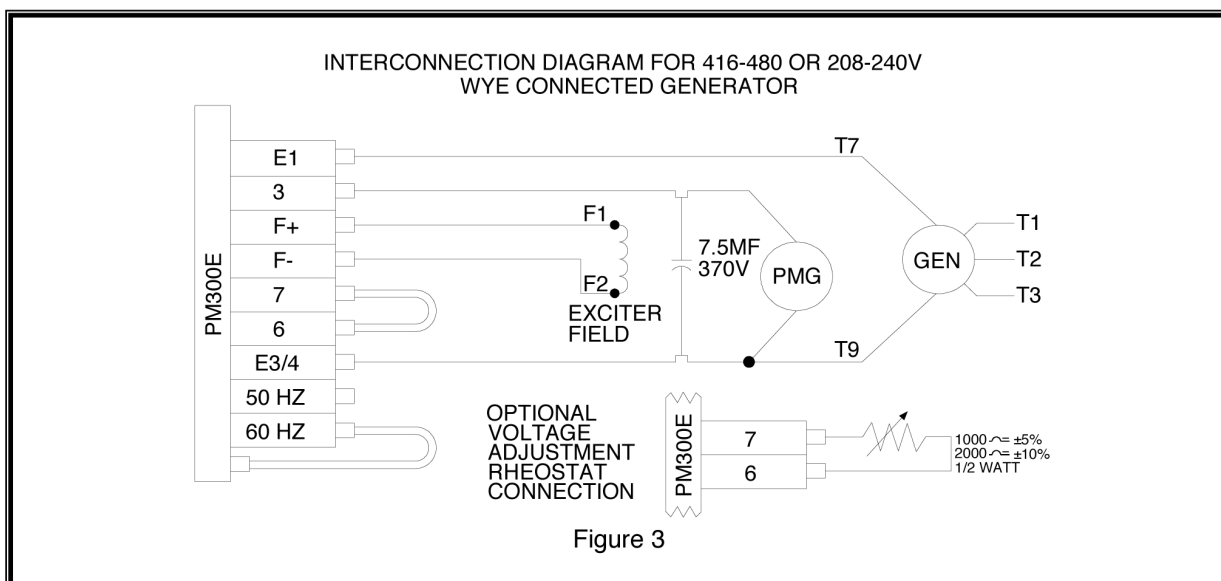

Figure 3
See figure 3 for typical High Wye (416-480V) or Low Wye (208-240V) connections. For High Delta (240V) or 120/240V single phase Zig-Zag, use generator leads
- When using a remote voltage adjust rheostat, remove the jumper wire across terminals 6 and 7 and install a 2000 ohm 1/2 watt (minimum) rheostat. (See Figure 3). This will give $\pm 10\%$ voltage variation from the nominal. (For $\pm 5\%$ voltage variation use a 1000 ohm 1/2 watt rheostat).
- There are two small jumpers on the regulator. (See Figure 3).